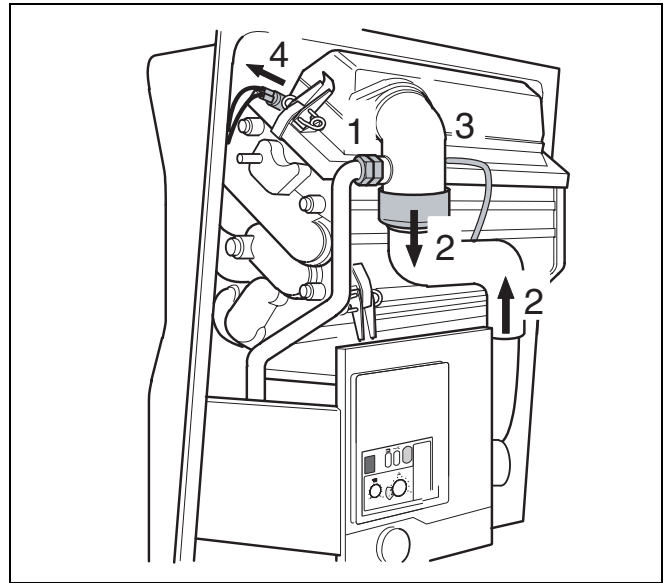

fig. 42 Disconnecting
- Loosen the screw couplings of the gas injector (fig. 42, item 1).
- Pull off the hose leading to the fan (fig. 42, item 2).
- Pull off the hoses at the differential pressure measuring point (fig. 42, item 3).
- Pull off the wiring of the burner thermostat (fig. 42, item 4).